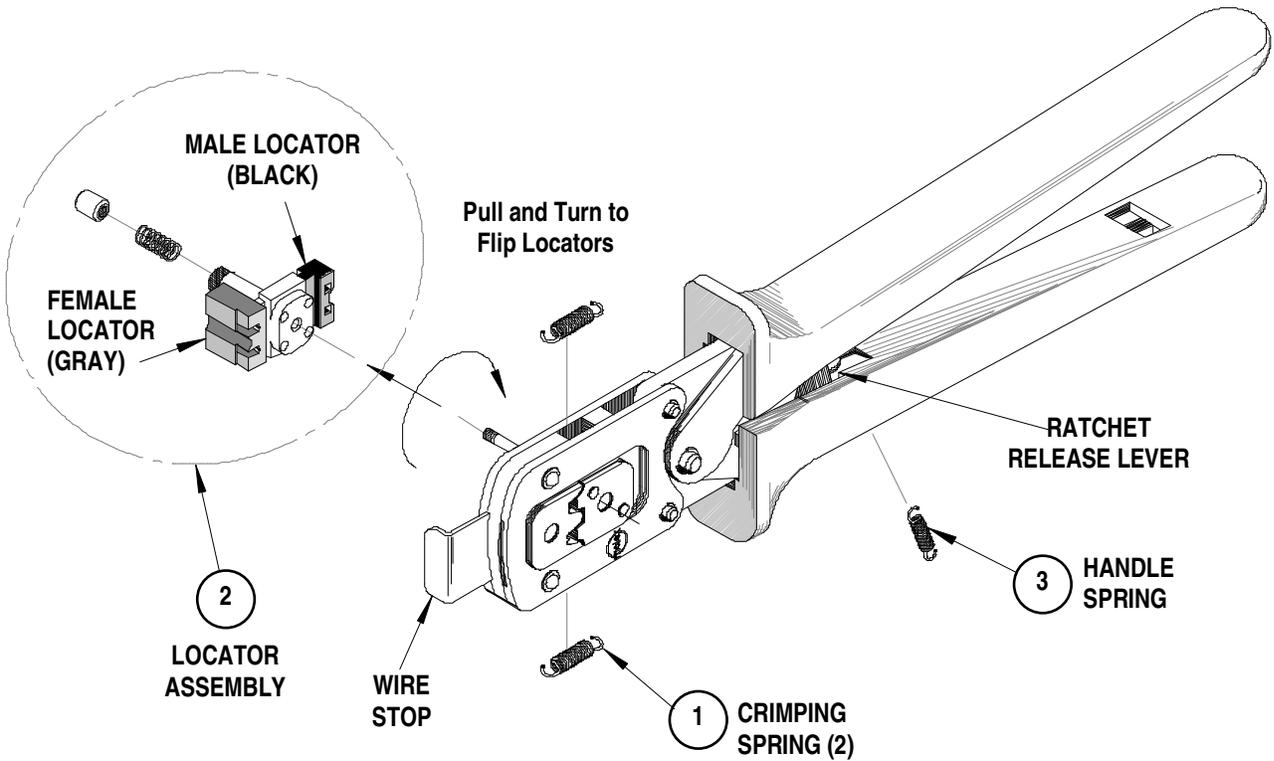

Figure 3
2. To position the desired locator, pull up on the knurled pin and turn 180° till the locator fits snugly in the slot. See Figure 3, Assembly Drawing.
Should this tool ever become stuck or jammed in a partially closed position, **Do Not** force the handles open or closed. The tool will open easily by lifting the ratchet release lever. See Figure 3.